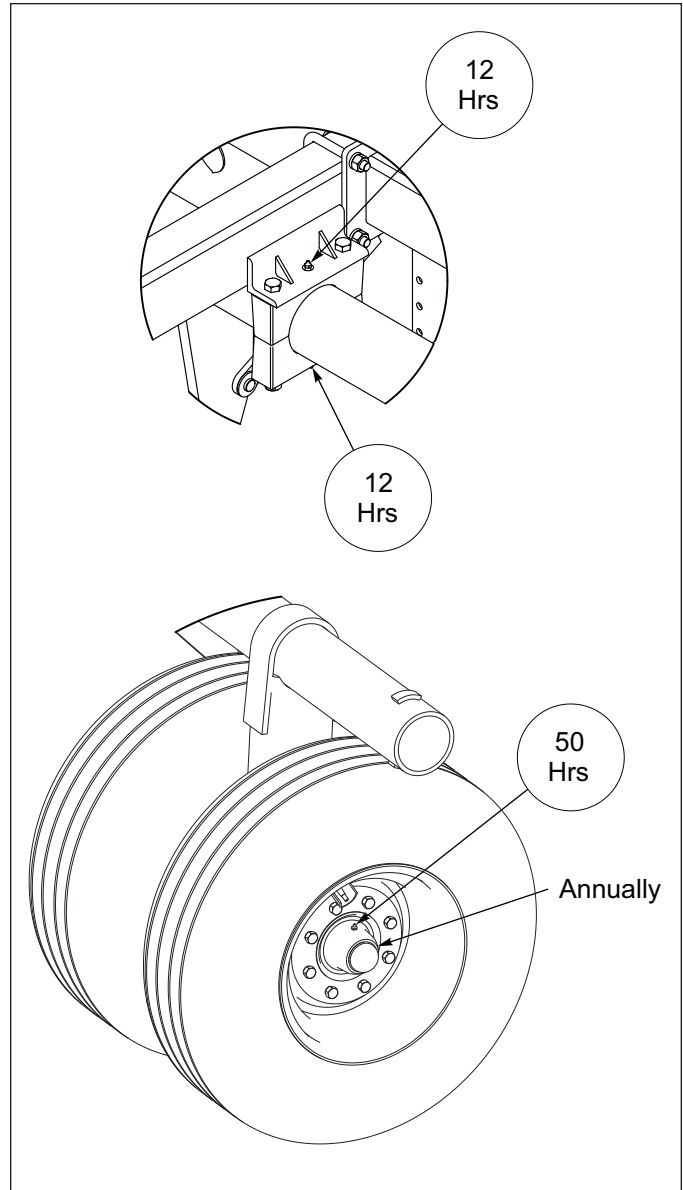

Figure 4-3: Lubrication
Grease wheel bearing and repack them annually. **See Figure 4-3.**
- e. Grease Transport Axle Bearings and Wheel bearings. **See Figure 4-3.**